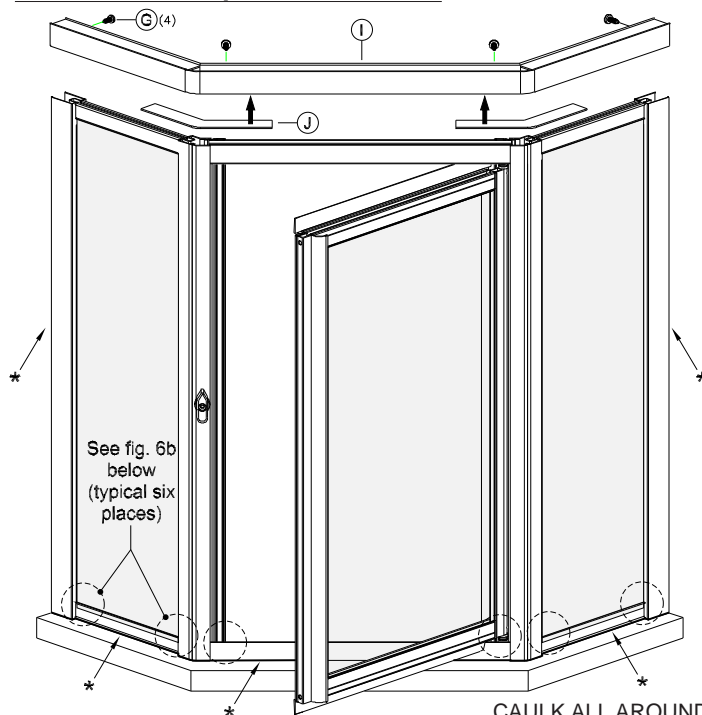
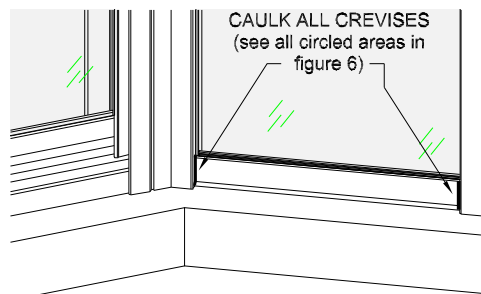

Fig. 6
Fig. 6b
Second: from inside the shower unit, caulk the six (6) circled areas indicated in figure 6 above (caulk the crevice where the horizontal member meets the vertical member as shown in figure 6b).